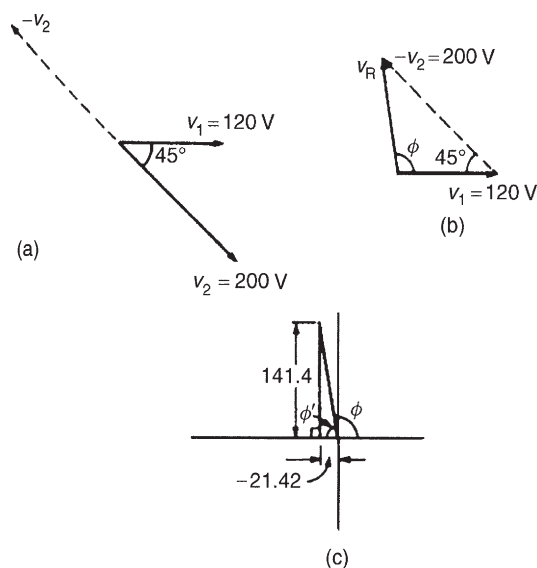

Figure 14.14
- (b) The relative positions of v_1 and v_2 are shown at time $t=0$ as phasors in Fig. 14.14(a). Since the resultant of $v_1 - v_2$ is required, $-v_2$ is drawn in the opposite direction to $+v_2$ and is shown by the broken line in Fig. 14.14(a). The phasor diagram with the resultant is shown in Fig. 14.14(b) where $-v_2$ is added phasorially to v_1
From Fig. 14.14(c), resultant